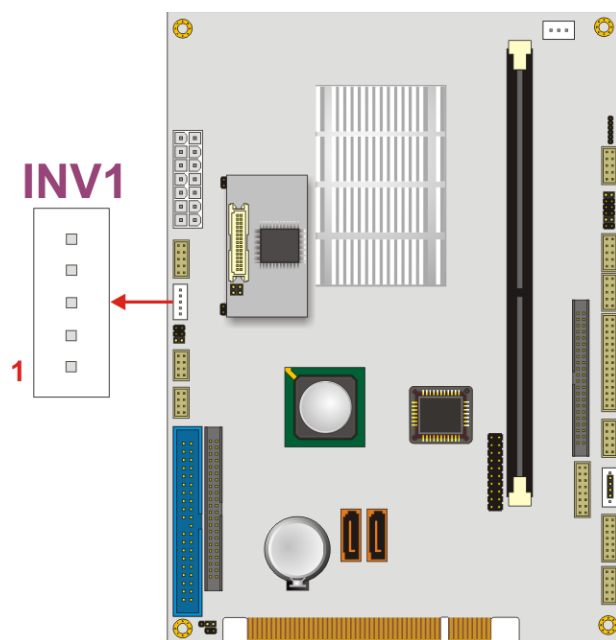

Figure 3-11: Inverter Connector Location
- CN Location:** See Figure 3-11